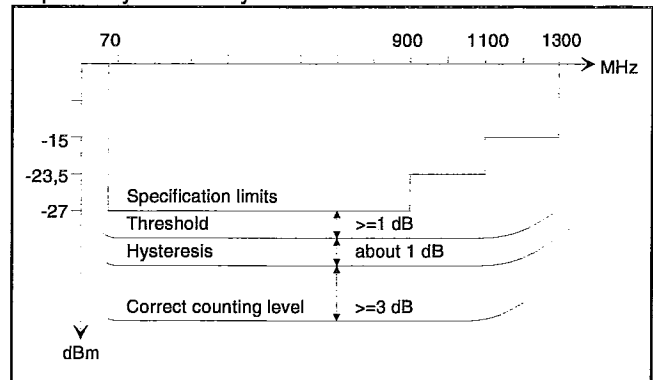

Fig. 5-22 Sensitivity and Counting levels.
- Check the "Correct sensitivity and counting" levels according to figure 5-22 to find out which part may have caused the fault. If everything seems all right, the fault is probably caused by the base unit.